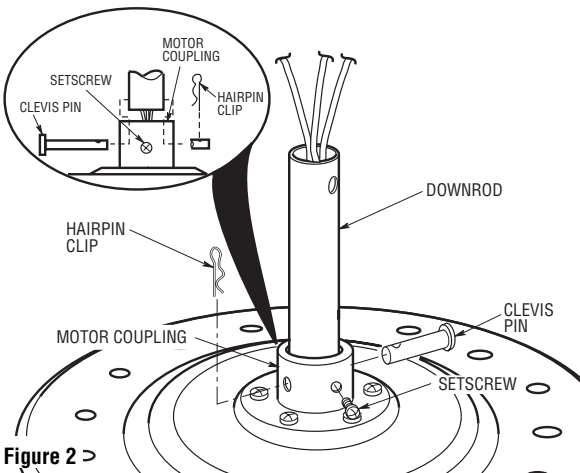

Figure 2
3. Remove the setscrew (Figure 2) from the motor coupling. Align the clevis pin holes in the downrod with the holes in the motor coupling. Install the clevis pin and secure with the hairpin clip (Figure 2). The clevis pin must go through the holes in the motor coupling and the holes in the downrod. Be sure to push the straight leg of the hairpin clip through the hole near the end of the clevis pin until the curved portion of the hairpin clip snaps around the clevis pin. The hairpin clip must be properly installed to prevent the clevis pin from working loose. Pull on the downrod to make sure the clevis pin is properly installed.